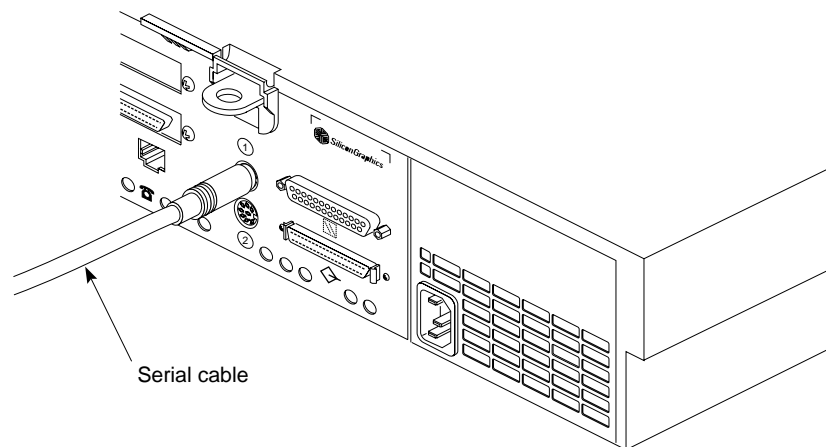

Figure 6-11 Connecting the Serial Cable to the Serial Port
- Connect the other end of the cable to the serial connector on the back of the Challenge S server, as shown in Figure 6-11.